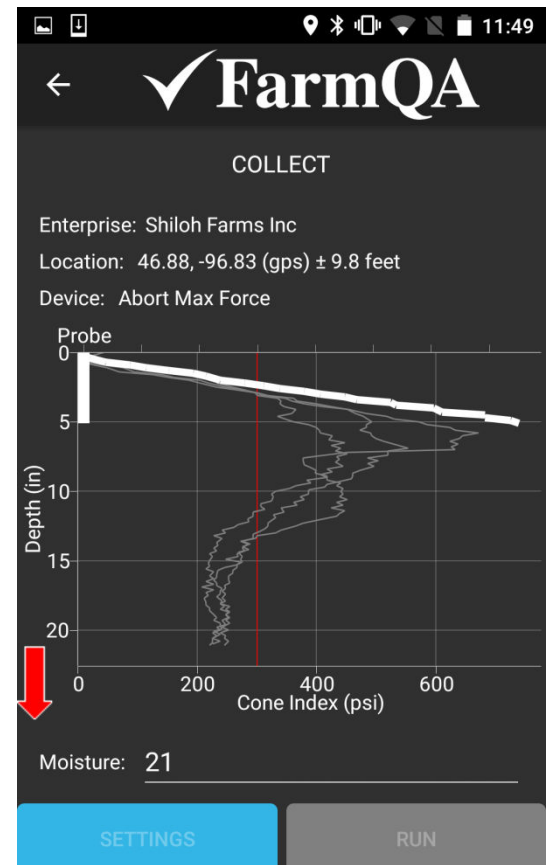

FIGURE 25
38. After pushing OK the screen should look similar to **Figure 25**. The Device status reads "Abort Max Force", the red down arrow and white probe depth bar show that the probe is in the ground, and the RUN button is gray. Do not move the vehicle if the screen looks like this.